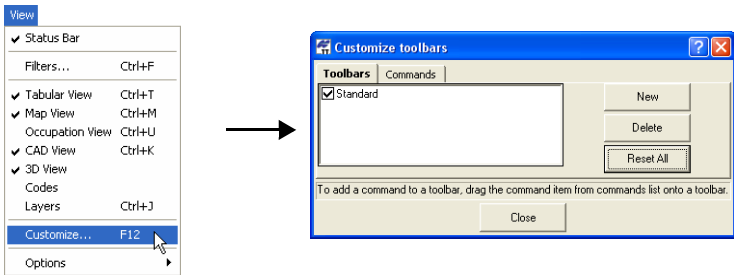

Figure 1-24. Customize Toolbars
1. To customize toolbar options, click **View ▶ Customize**. The *Toolbars* tab in the *Customize toolbars* dialog box displays all available toolbars for activating or inactivating, and adds or deletes toolbars. (Figure 1-24).